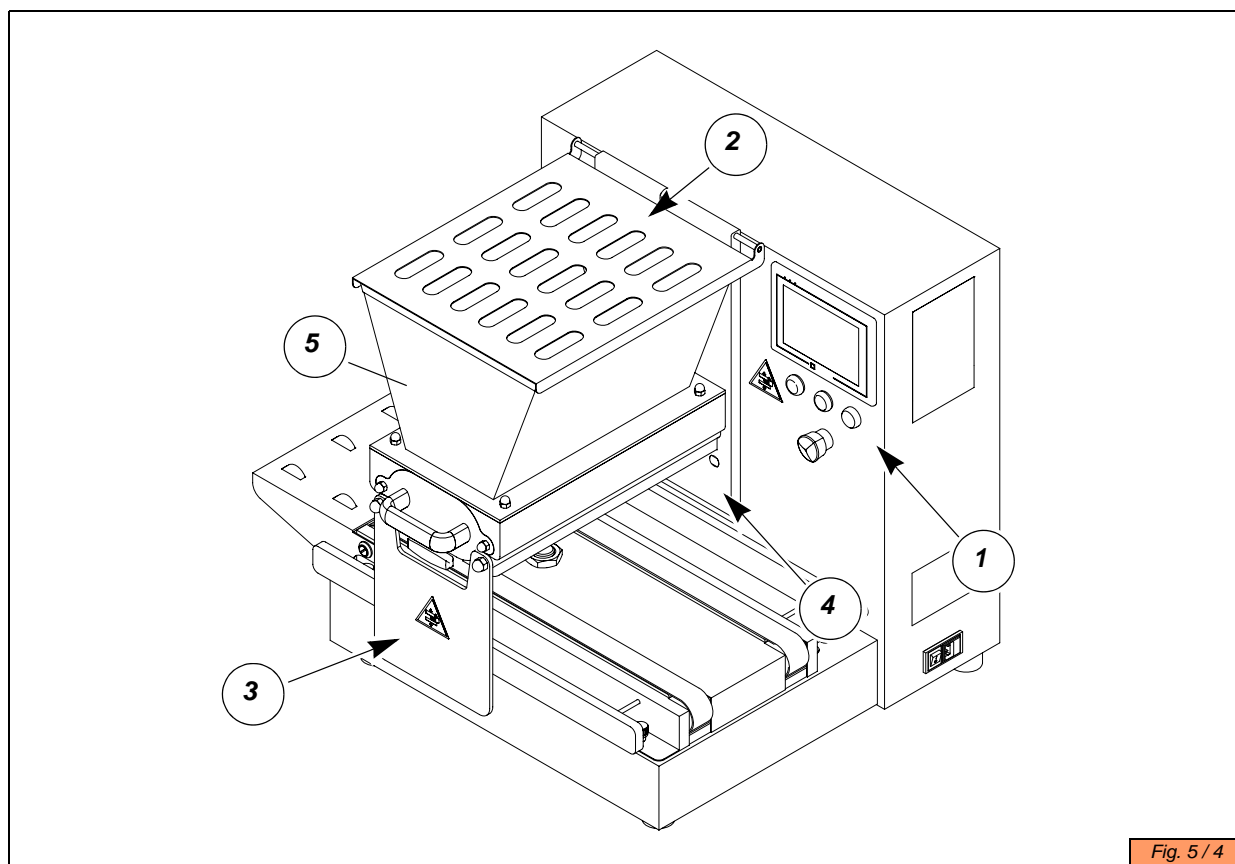

Fig. 5 / 4
- press the emergency pushbutton on the control panel (detail 1 Fig. 5 / 4);
- activate the various safety microswitches by opening the movable guards (details 2 and 3 Fig. 5 / 4);
- interrupt the safety photocell beam by placing a solid object between the photocell and the reflector positioned in front of it (details 4 and 5 Fig. 5 / 4).